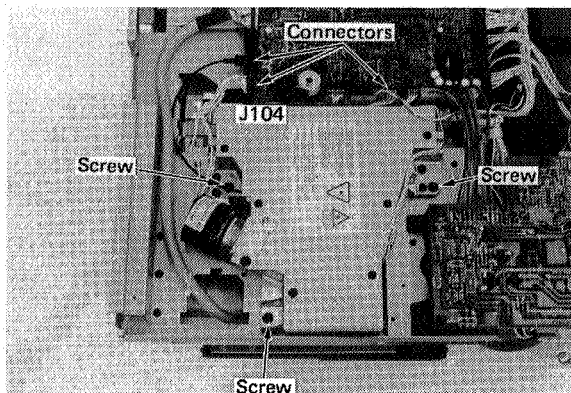

Figure 4-60
- (1) Take out the laser and scanner unit. (See Fig. 4-60.)
- (2) Remove the ozone seal plate, the two tension springs, the fastening screw and the two guide bushings. Take out the shutter.